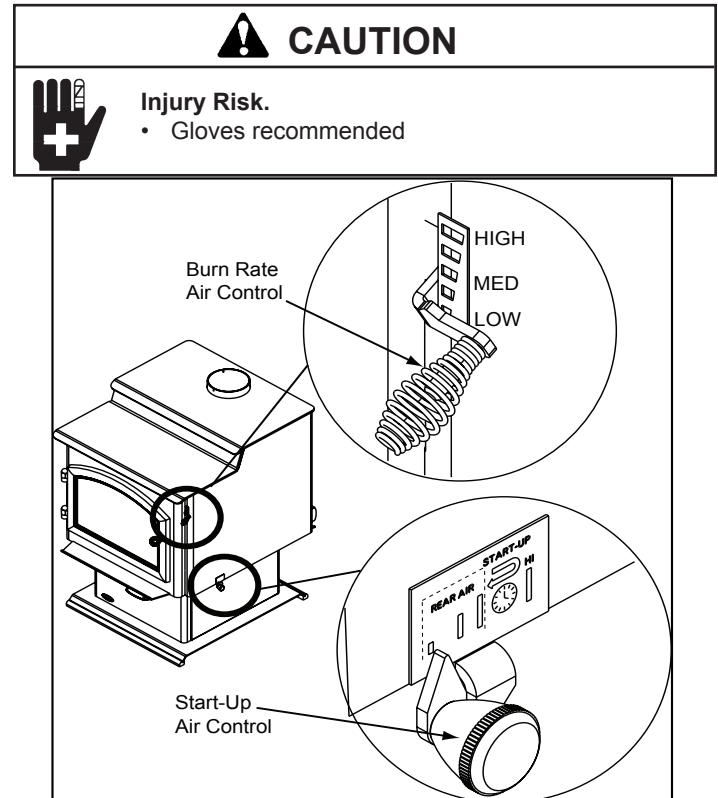

Figure 9.1
very important that the flames be maintained and not allowed to go out. This will ensure the cleanest possible fire. If the flames tend to go out, it is set too low for your burning conditions. The air control located at the upper right hand corner is used to adjust for burn rates. This is called the Burn Rate Air Control. **Figure 9.1**
This air supply enters at the upper front of the firebox, near the top of the glass door. This preheated air supplies the necessary fresh oxygen to mix with the unburned gases, helping to create second, third and fourth combustions. This air is regulated by the Burn Rate Air Control. When the control is moved all the way up it is on the High setting and when moved all the way down it is on the Low setting. **Figure 9.1**
Open both Burn Rate Air Control and ACC systems fully. To do this with the Burn Rate Air Control push spring handle up to high. For the ACC timer system push knob towards back of appliance until the knob is located under the high position. **Figure 9.1**
To maximize heat output with the ACC timer System or also known as high burn push the ACC Air Control lever towards the back of the appliance and leave. This combined with having the main burn rate control lever pushed up to the high position will deliver the most amount of air needed to achieve the highest amount of heat output. **Figure 9.1**
- Then activate the ACC timer system by pushing the knob all the back toward the appliance to “HI” then pull forwards towards the front of the appliance until the knob stops (**Figure 9.1 on page 9**).